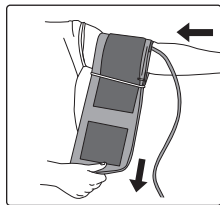

Fig. 3
5. Insert your left arm into the cuff cylinder. Position the index mark Φ over the main artery on the inside of your arm, Fig 3, 4.